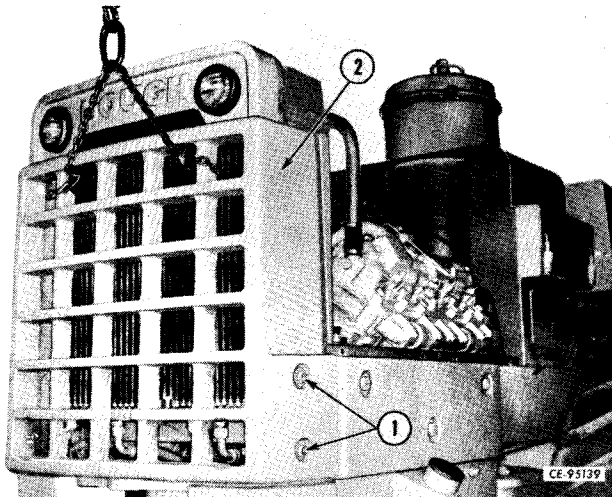

Figure 2-29
Using a suitable hoist, position grille (2, Fig. 2-29) on tractor frame. Install and tighten cap screws and nuts (1) on each side of grille.